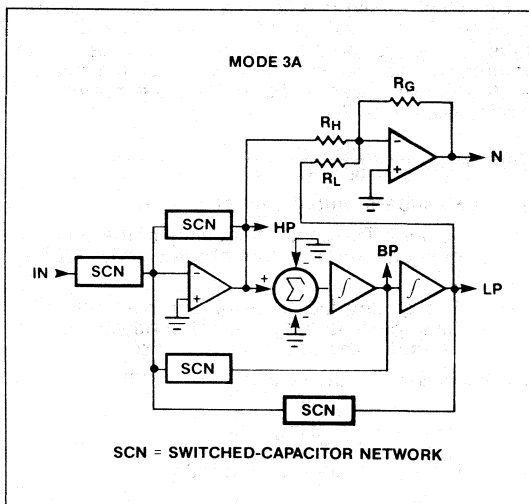

Figure 10. Filter Mode 3A: Second-Order Bandpass, Lowpass, Highpass and Notch. For elliptic LP, BP, HP and Notch, the N output is used
**MODE 3A** (Figure 10) uses a separate op-amp to sum the highpass and lowpass outputs of Mode 3, creating a separate notch output. This output allows the notch to be set independently of  $f_0$  by adjusting the op-amp's feedback resistor ratio ( $R_H, R_L$ ).  $R_H, R_L$ ,